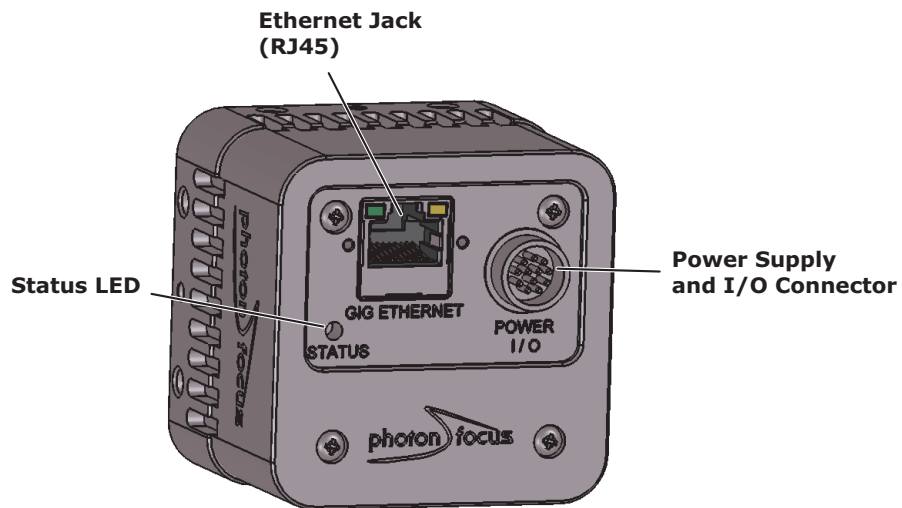

Figure 1.1: Rear view of the GigE camera MV1-D1312(IE)-40-G2 with power supply and I/O connector, Ethernet jack (RJ45) and status LED
4. Connect the power supply to the camera (see Fig. 1.1).